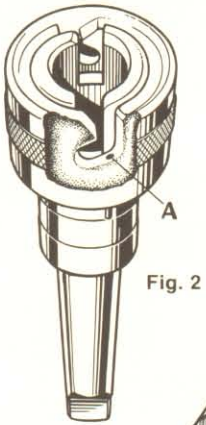
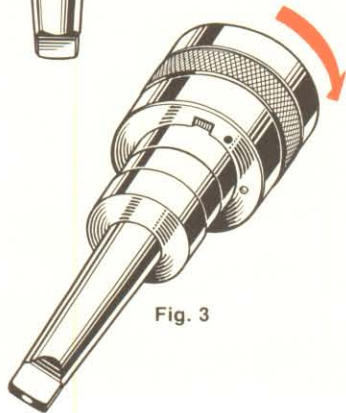

Fig. 2
Fig. 3
To remove collar: Grip the tang of the chuck in a vise, horizontally. Turn the collar in the direction shown in Fig. 1 until the end of the spring is seen in the slot. Pry the end of the spring from the hole in the body with a small screwdriver. Insert a small punch in hole (A), shown in Fig. 2 and drive out the pin. Turn the collar in the direction shown in Fig. 3 until the square pin is in alignment with the slot; then withdraw the collar from the body.